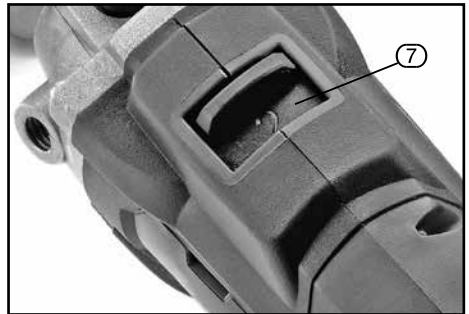

FIG. 9
9.3 TWO SPEED SELECTOR SWITCH – FIG. 9